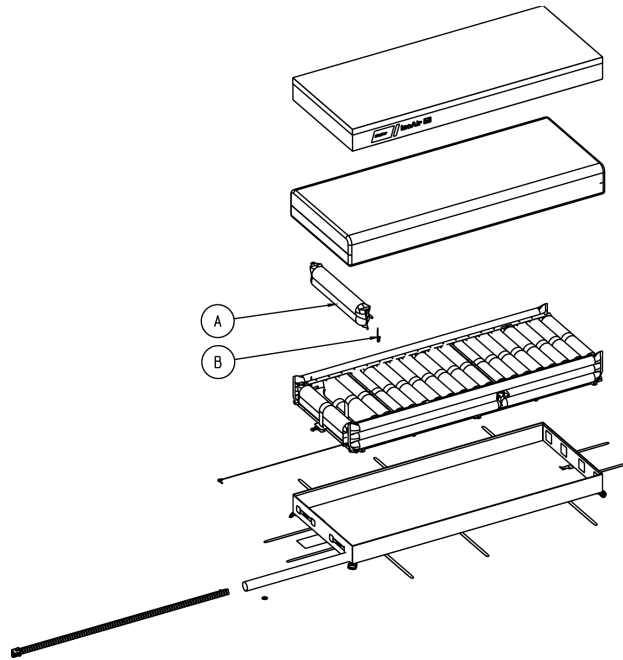

Figure 8 – Non-AST air cell replacement
8. Using diagonal pliers, cut the nylon cable tie from the two-line manifold/non-AST air cell fitting (A).
9. Cut the fitting (B) lengthwise for the non-AST air cell being replaced (A) (Figure 8).